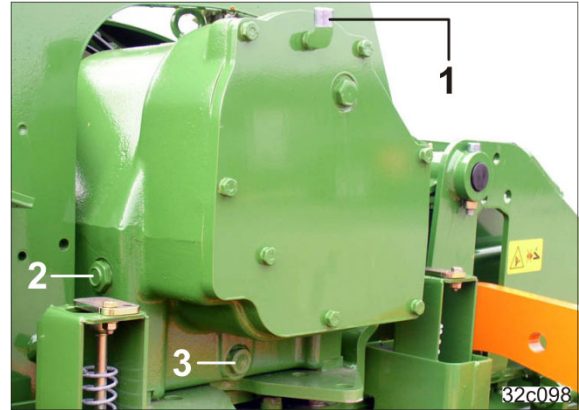

Fig. 132
The gearbox is equipped with a ventilation valve (Fig. 132/1). Ventilation must be ensured to prevent the gearbox from developing leaks.
When the fill quantity is correct, the oil level is visible in the oil sight glass (Fig. 132/2).
2. If necessary, add transmission fluid through the opening in the breather (Fig. 132/1).
2. Unscrew the oil drain screw (Fig. 132/3).